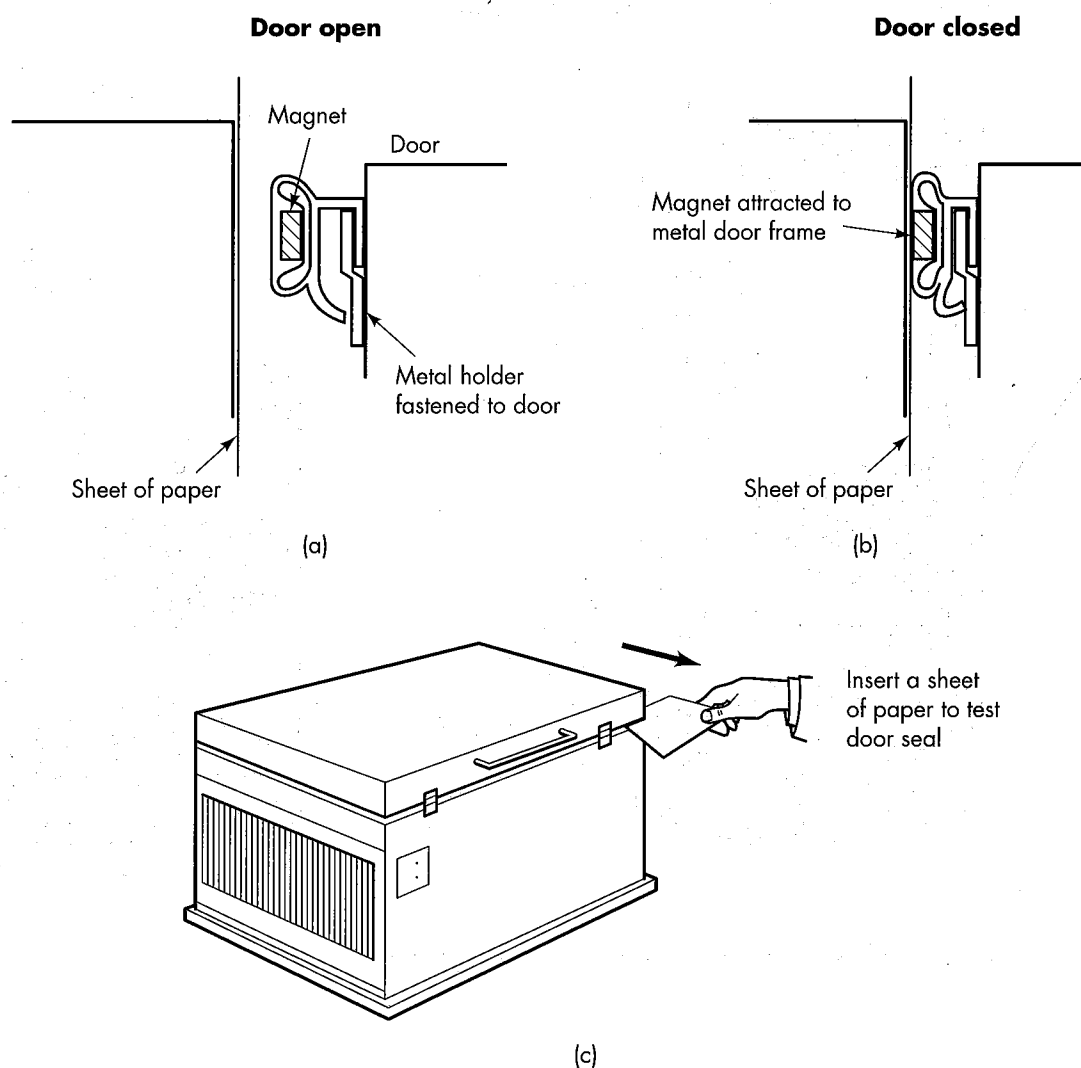

Figure 46: Door seal check
- check freezer and defrost if necessary. If you find there is a need to de-frost weekly, the door and seal may require adjustment (Figure 46)